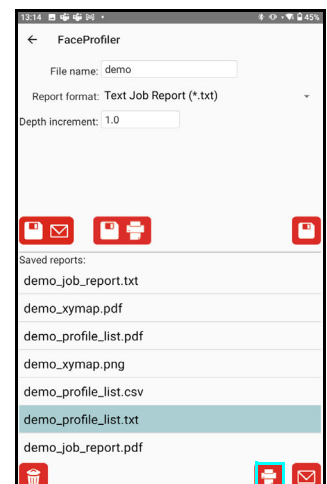

Figure 65
2. Tap to select the Report in the scrolling list of saved reports (at the bottom half of the page) and tap  (Figure 65).